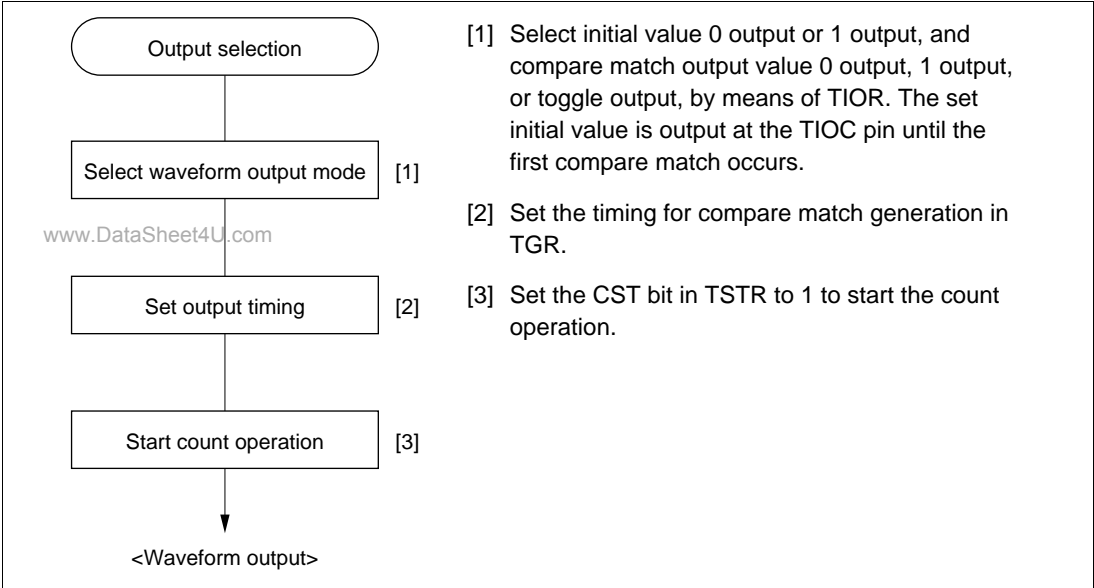

Figure 9.9 Example Of Setting Procedure For Waveform Output By Compare Match
- Figure 9.9 shows an example of the setting procedure for waveform output by compare match